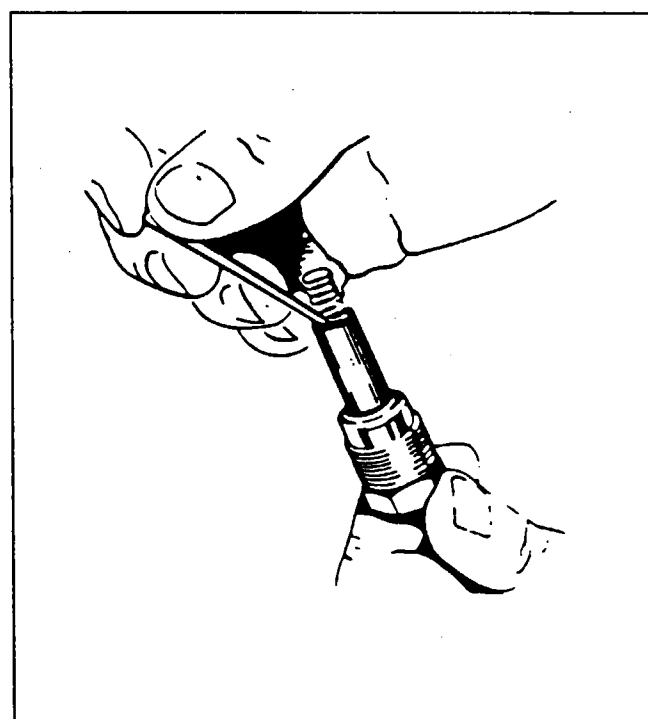

Figure 74-13. Removing Spring From Lead Assembly
1. Using a Bendix 11-7073 needle or a mechanical pencil with the lead retracted, hook the end of the contact spring as shown in Figure 74-13.